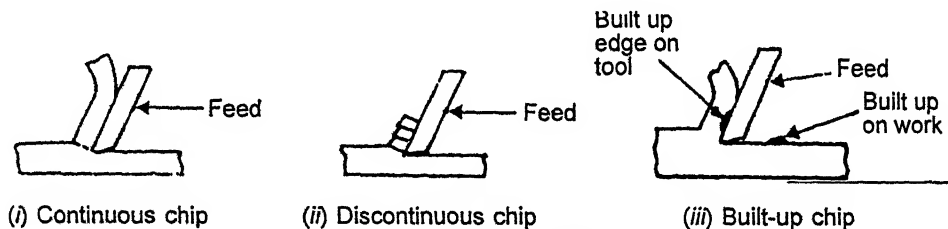

Fig. 10.6. Types of chips.
The chips produced, whatever the cutting conditions be, may belong to one of the following three types (See. Fig. 10.6).
#### 1. Continuous chip : Refer to Fig. 10.6 (i).
**2. Discontinuous chip :** Refer to Fig. 10.6 (ii).
**3. Built-up chip :** Refer Fig. 10.6 (iii).